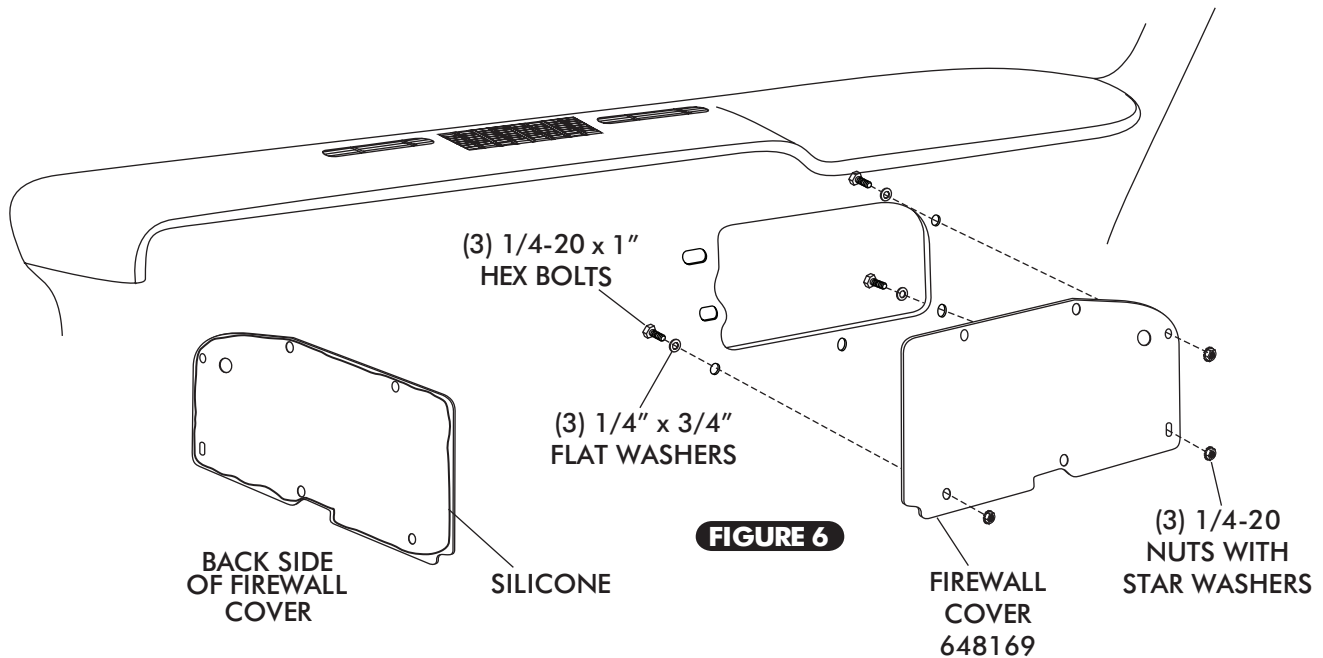

FIGURE 6
- APPLY A 1/4" BEAD OF SILICONE AROUND THE BACK SIDE OF THE FIREWALL COVER AS SHOWN IN FIGURE 6, BELOW.
- FROM INSIDE THE CAR, INSTALL FIREWALL COVER ON FIREWALL USING (3) 1/4-20 x 1" HEX BOLTS, FLAT WASHERS AND 1/4-20 NUTS WITH STAR WASHERS, SEE FIGURE 6, BELOW.